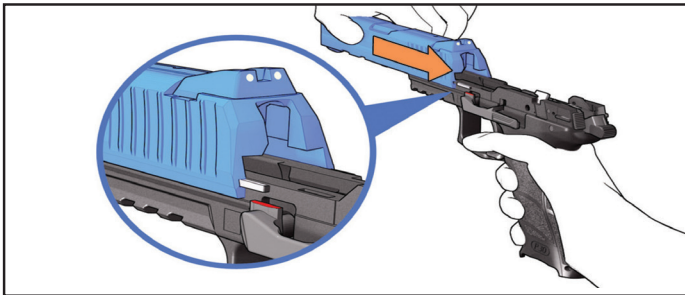

Figure 26 — Mounting the slide on the frame
4. Push the recoil spring forward into position, compressing the recoil spring, then pivot the back of the recoil spring guide rod onto the stepped mounting surface located on the front of the barrel camming lug (see Figure 26). Ensure the front of the recoil spring is facing forward in the slide.
6. Mount the slide onto the frame, ensuring that the recoil spring is centered underneath the barrel, and that the rails on the frame are inserted into the grooves in the bottom of the slide (see Figure 26).